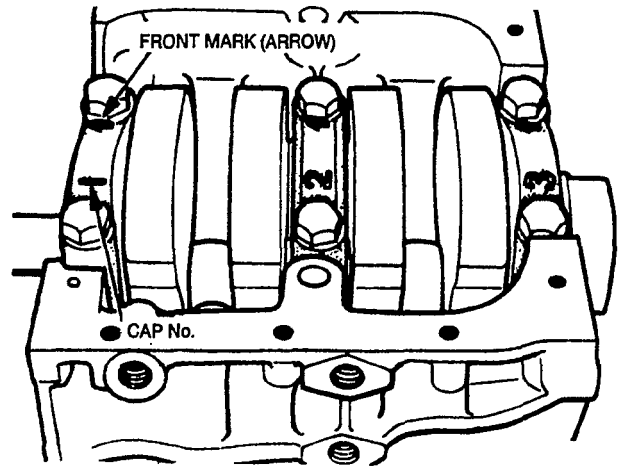

FIGURE 9-60. INSTALLING MAIN BEARING CAPS
4. Install the bearing caps to the cylinder block. Note the Cap No. and arrow marks when the caps are installed (Figure 9-60).